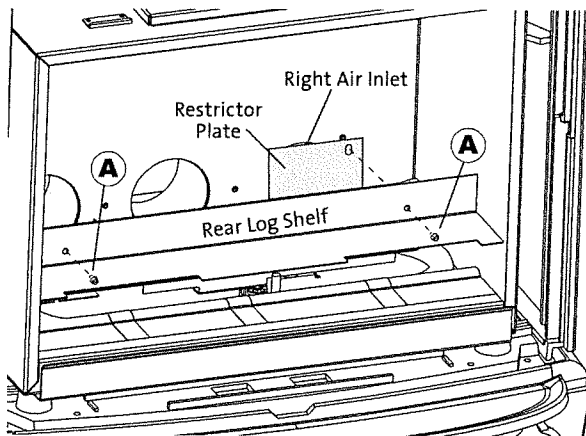

Figure 6. Air Inlet Restrictor Plate installation.
2. Using a 1/4" nut driver, remove the two sheet metal screws (A) and Rear Log Shelf from the back of the firebox. See Figure 6.